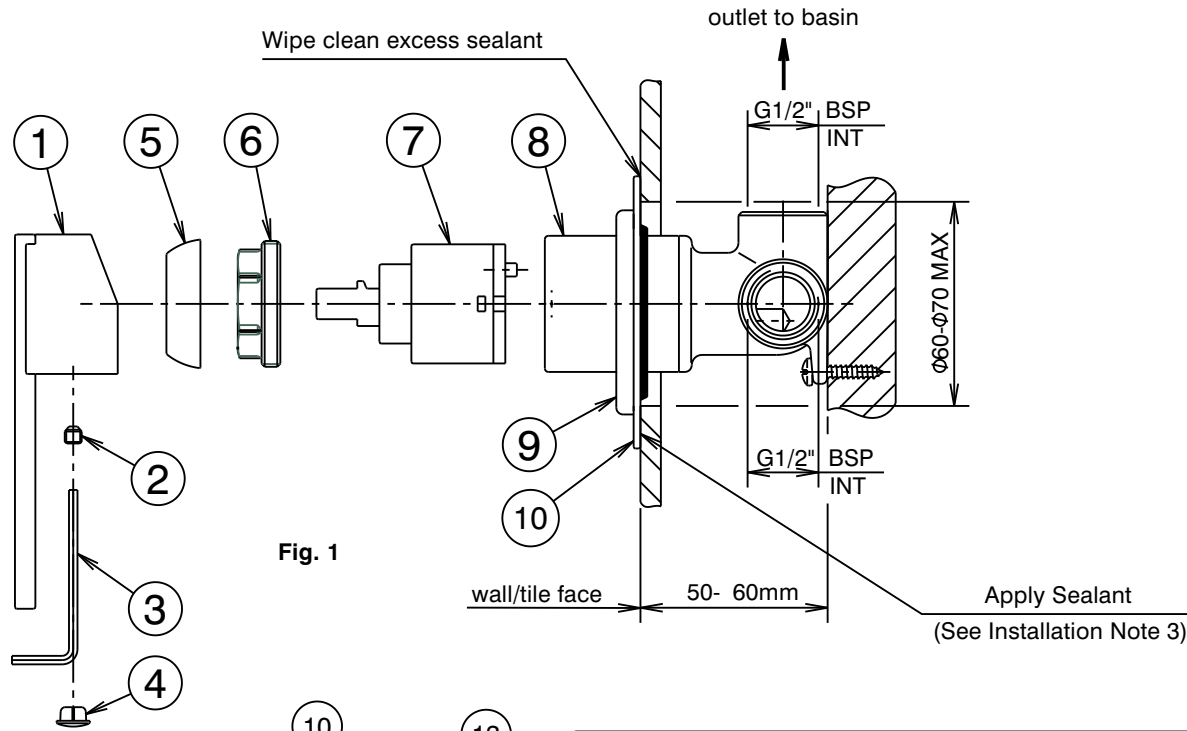

Fig. 1
- 3) Apply a suitable clear sealant to the back face of the cover plate (10) to prevent water from entering the wall cavity, leaving an unsealed section at the bottom for drainage (See Fig. 1). Carefully slide the cover plate (10) together with trim cover (9) onto the mixer body (8), push firmly on the trim cover until cover plate (10) contacts the wall/tile face & sealant has formed a waterproof joint. Wipe clean any excess sealant from the chrome surfaces & the wall/tile face (See Fig. 1).
- 4) Fit handle (1) as shown, taking care that it is pushed fully down, then tighten grub screw (2) using 2.5mm allen key (3). Insert plug (4) taking care not to damage the decorative finish.
Replacing Cartridge (Fig. 1)